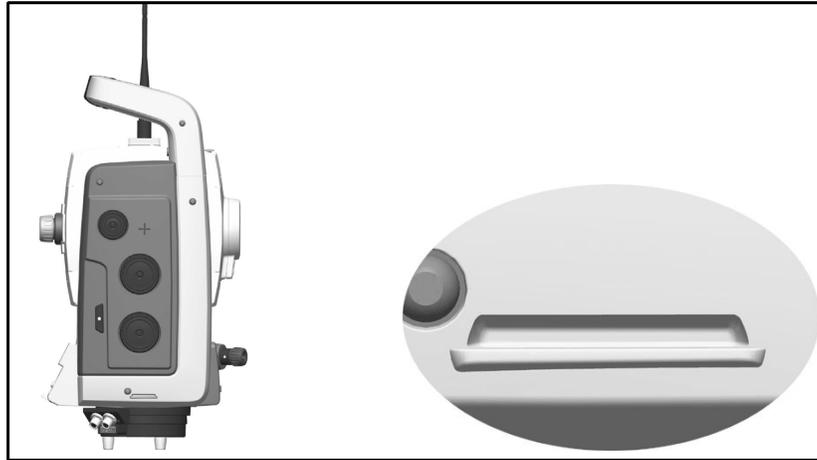

Figure 1.5 Instrument height marks
- d. Describe the instrument height marks at the trunnion axis and the bottom notch. The field software allows heights to be entered to either mark. Describe how measuring to the bottom notch provides a more accurate instrument height measurement. See Figure 1.5.